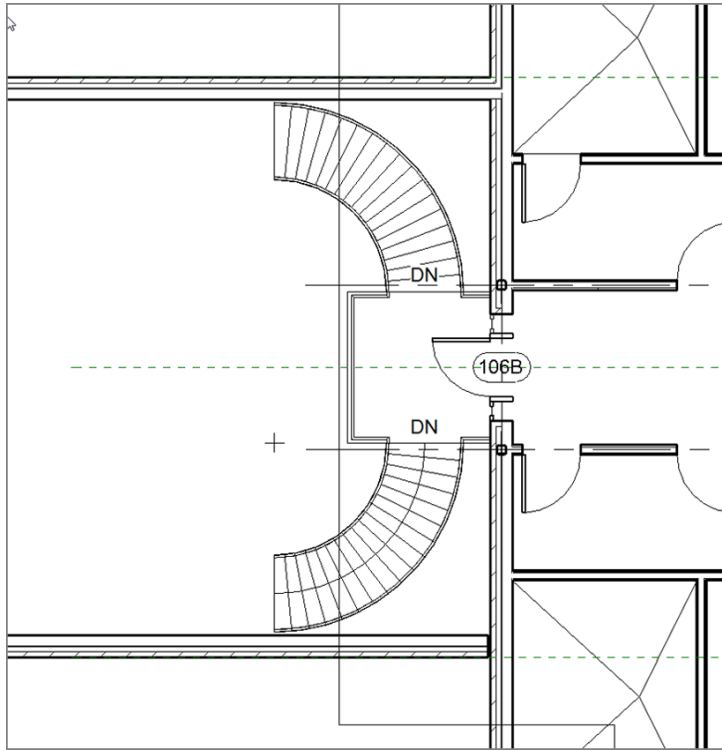

FIGURE 11.58: The area where the corridor meets the east wing
2. Zoom in on the area where the corridor meets the east wing, as shown in Figure 11.58.